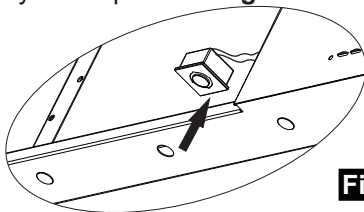

Figure 6
- * Before placing the new LED lamp, remove the protective folio from the frame, and then stick it on its place on the body of the product. **Figure 6**